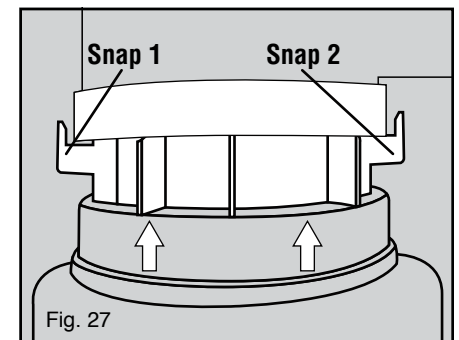

Fig. 27
2. Push the refill bottle flush to the motor module until both snaps are secure (see figure 27).